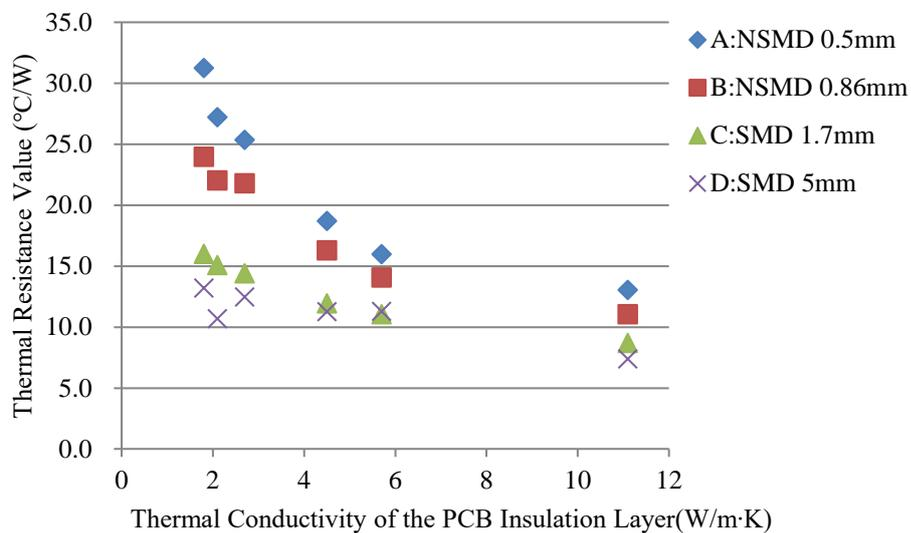

Figure10. NCSLE17A's Thermal Resistance Values ($R_{\theta JB}$)
- Refer to Figure 10 for the thermal resistance from the LED chip to the T_B measurement point ($R_{\theta JB}$) when operating NCSLE17A LEDs (Color Rank: sm27, Color Rendering Index Rank: R8000) at $I_F=700$ mA.